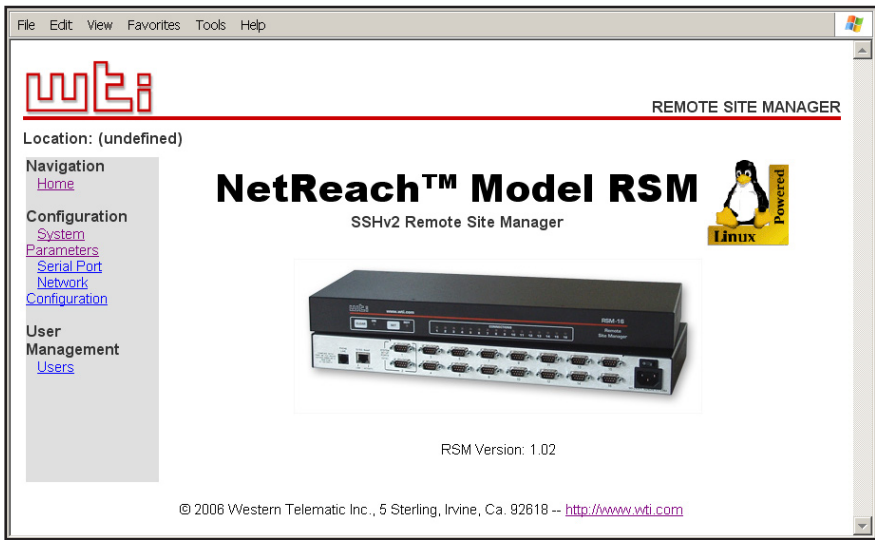

Figure 5.2: The Home Screen (Web Browser Interface)
3. If a valid username and password are entered, the RSM Home Screen will appear as shown in Figure 5.2.
- **Web Browser Interface:** Click the appropriate button on the left hand side of the Home Screen (Figure 5.2) to access the desired configuration menu. To change parameters, click in the desired field and key in the new value or select a value from the pull-down menu. To apply newly selected parameters, click on the "Change Parameters" button at the bottom of the menu or the "Set" button next to the field.